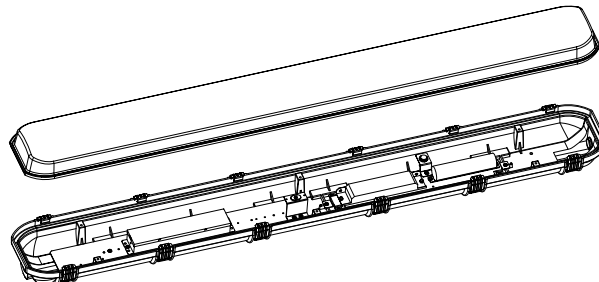

Fig 11
4. The emergency driver has been installed successfully as shown in Fig. 11.
4. Le driver d'urgence est désormais correctement installé, comme indiqué sur la figure 11.